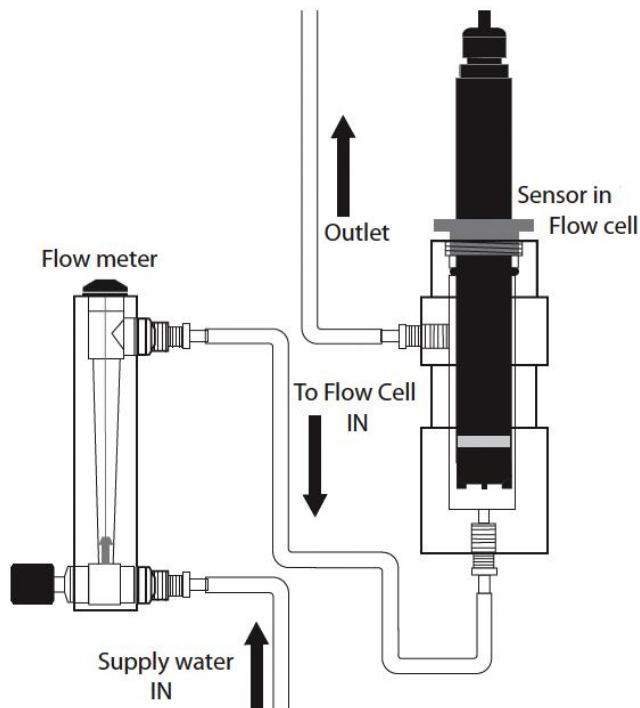

Figure 3 - Schematic of probe, flow cell and flow meter
As shown in Figure 3 water flows into the bottom of the flow cell and exits from the side.
Figure 3 shows the complete assembly of probe, flow cell and flow meter, including the direction of water flow.
4. Insert the probe assembly into the flow cell as shown in Figure 3.